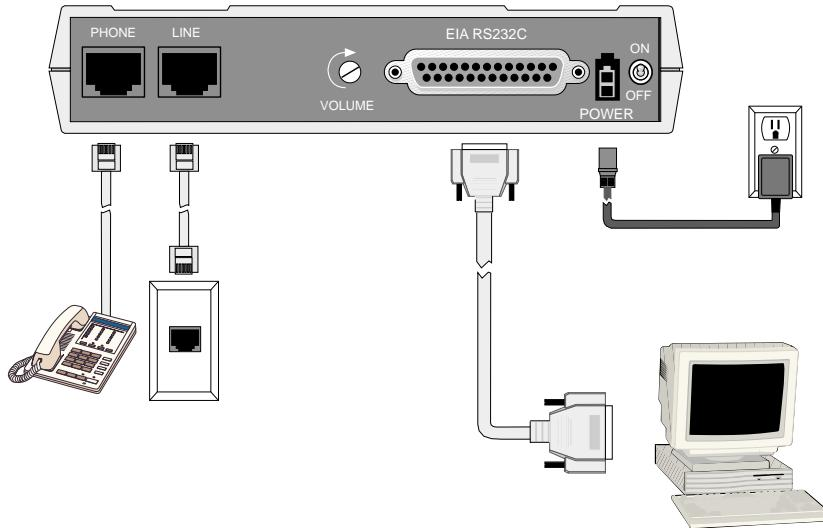

Figure 2-2. MultiModemBA/BAL Connections
- 3 Connect the modem to a dial-up line by attaching the RJ-11 telephone cord (provided with your unit) to the **LINE** connector on the modem and to a dial-up wall jack. Refer to Figure 2-2.
- 4 Attach the **EIA RS-232C** connector on the modem to the serial port on your computer or terminal with an RS-232 (or V.24) cable (you supply). Refer to Figure 2-2.
- 5 To connect a telephone set to the modem (optional) plug one end of an RJ-11 phone cord into the **PHONE** connector on the modem, and plug the other end into your telephone. Refer to Figure 2-2.
- 6 Attach the AC Power transformer provided with your unit to the **POWER** connector on the modem and to a live AC outlet. Refer to Figure 2-2.
- 7 Apply power to the unit by setting the **ON/OFF** switch at the rear of the modem to the **ON** (Up) position. Refer to Figure 2-2.